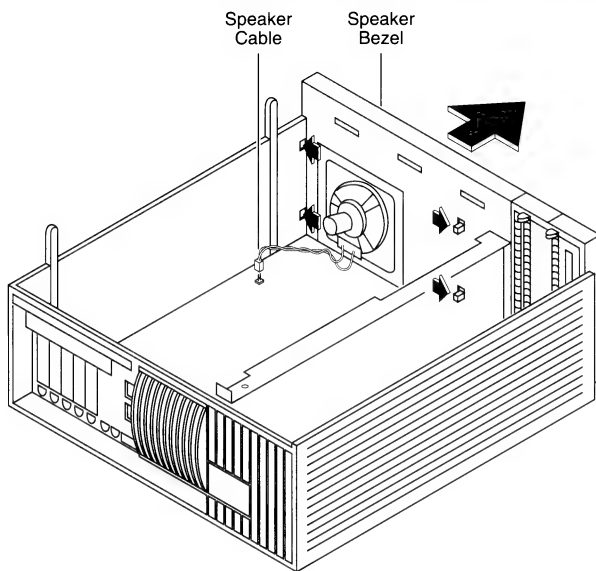

Figure 10 Speaker Bezel and Speaker
- Disconnect the speaker cable from the logic board (see Figure 10).
- Release the four plastic latches on the inside of the speaker bezel (see Figure 10).